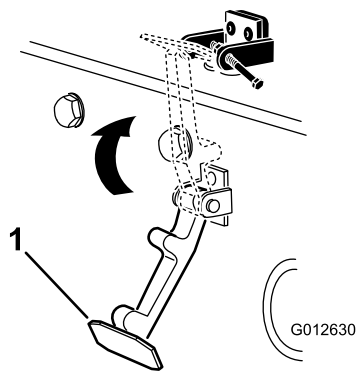

**Figure 6**
6. Rivet the brackets and the washers to the hood (Figure 6).